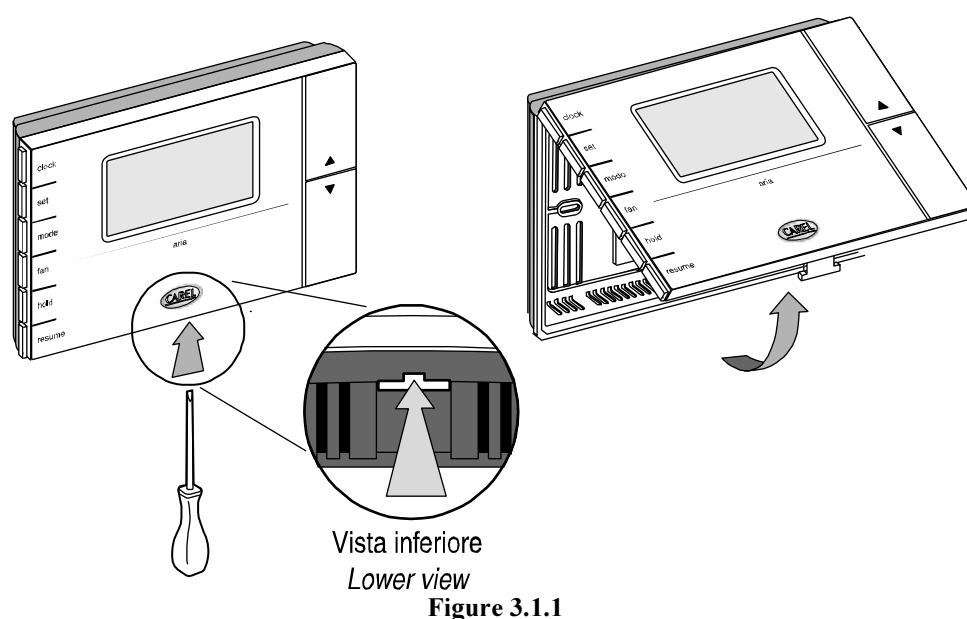

Figure 3.1.1
1. To detach the front panel of the terminal from the rear shell, place a flat-heat screwdriver in the slot in the centre of the bottom side of the housing and release the locking flap (Fig. 3.1.1).
2. Raise the front panel using a "hinge" movement, using the upper edge of the instrument as the pivot and raising the lower edge (Fig. 3.1.1);